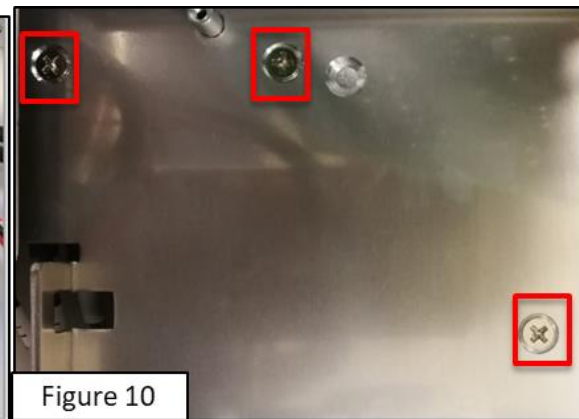

Figure 10
- Loosen the screws the back of the **Relay Board** (as shown in Figure 10) ◦